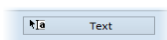

**Figure 198 – Assigning a label to the measurement**
2. An edit box is then displayed near the measurement (see Figure 198). To speed up the entry of the most frequently used labels, a combo box is available containing up to 20 of the most recently used labels (sorted chronologically)